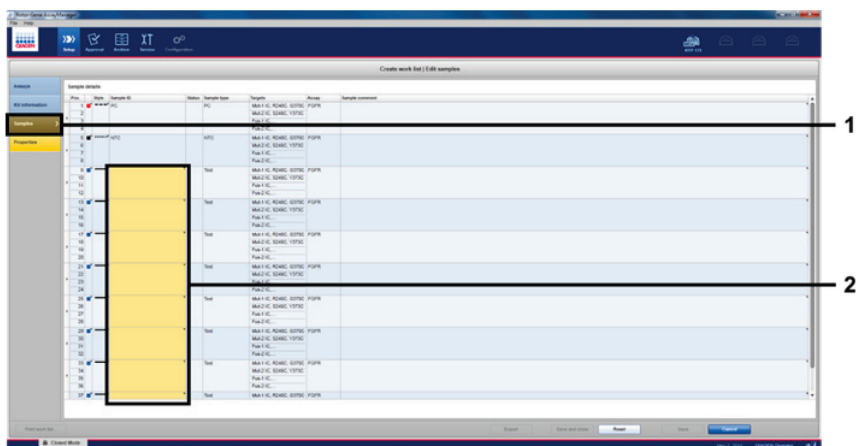

Figure 10. Create work list main window. 1 = "Samples" tab, 2 = Enter sample names.
6. Click the Samples tab to enter sample information. Enter the sample names manually (Figure 10).